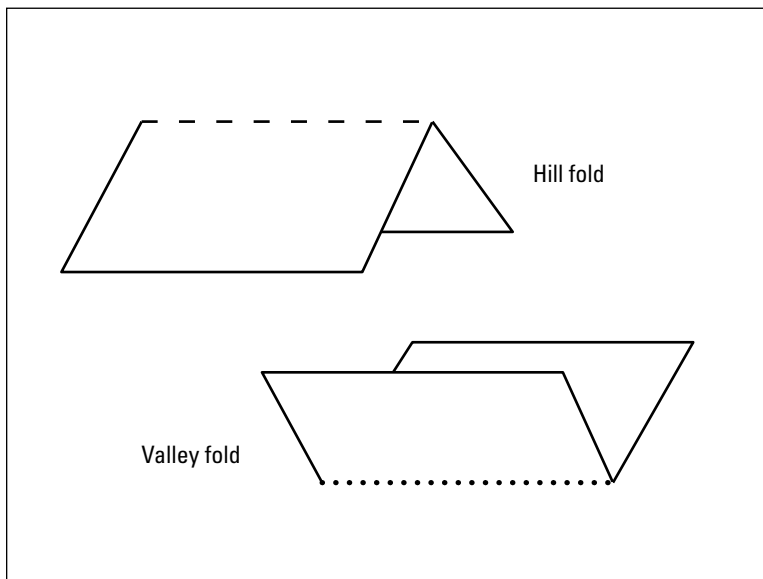

Figure 4-2:
- ✓ **Dotted lines:** Lines with a series of small dots show where to score to make *valley folds* (see Figure 4-2). These folds form the letter *v*, making a small valley in the card. You need to score along dotted lines before you cut out the card. (To understand scoring, check out the “Scoring for crisp folds” section later in this chapter.)
- ✓ **Dashed lines:** Lines made up of small dashes show where to score to make hill folds (refer to Figure 4-2). In a *hill fold*, sometimes referred to as a *mountain fold*, you fold the paper or card downward to make a little hill shape.